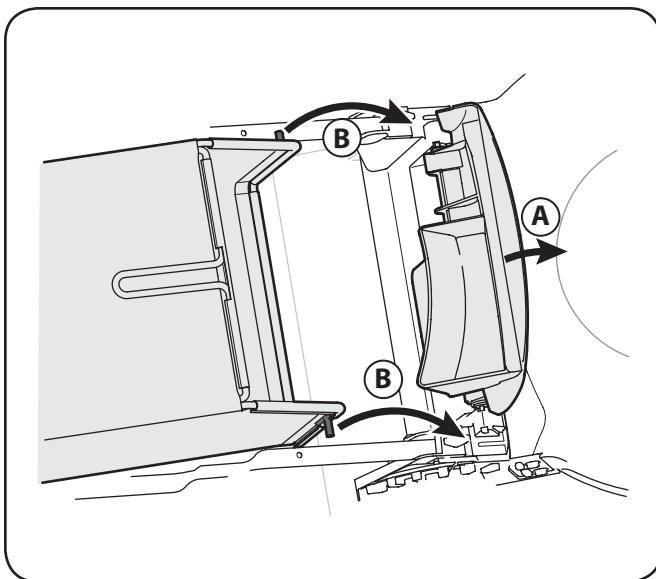

Figure 3-8
- Place grass catcher into the slots in the handle brackets as shown in Fig. 3-8. Let go of discharge door so that it rests on the grass catcher.